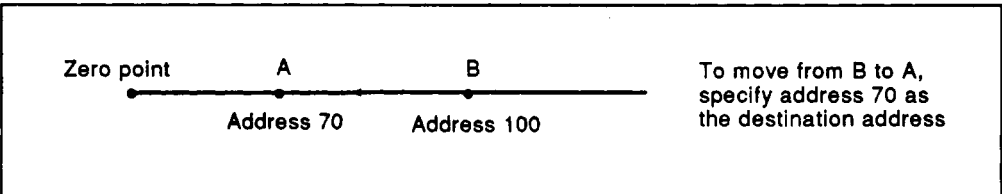

Fig. 3.7 Absolute Method
- In absolute mode positioning, positions are reached with reference to a Zero point address. (See Fig. 3.7.)